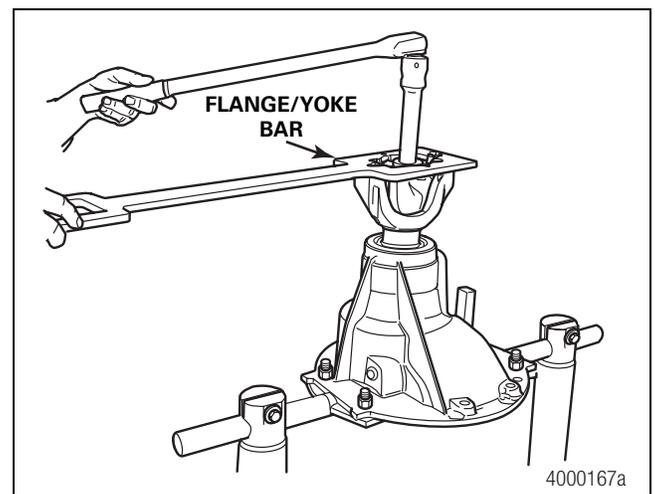

Figure 5.12
4. Install the drive pinion nut, and washer if required onto the input pinion shaft and against the yoke collar. Use a flange or yoke bar to tighten the nut against the yoke collar to torque specifications. Figure 5.12. Refer to Table G in Section 7.